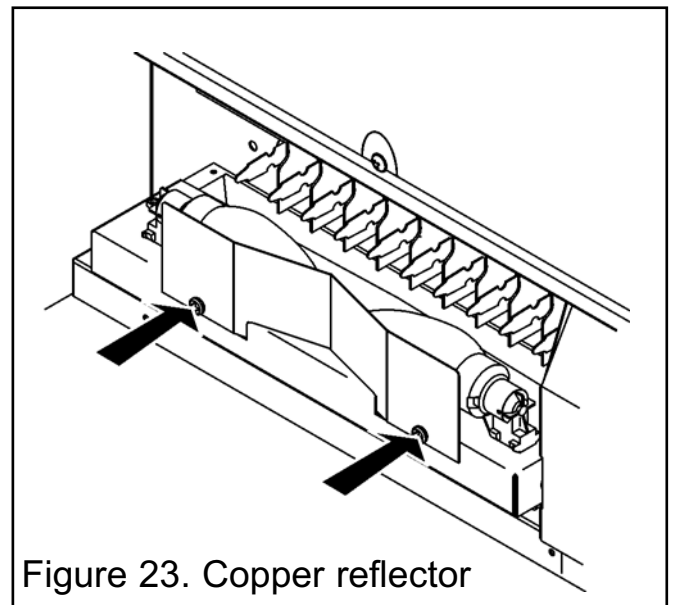

Figure 23. Copper reflector
3. Unscrew and remove the copper reflector plate (See figure 23).